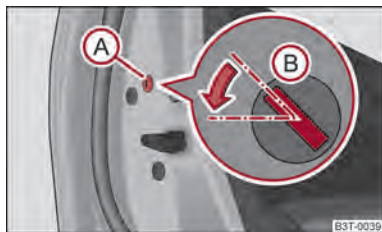

Fig. 16 Rear door: Emergency locking of the door
- Remove the panel (A) ⇒ fig. 16.
- Insert the key into the slot (B) and turn it into the horizontal position in the direction of the arrow (mirror-inverted on the right doors).